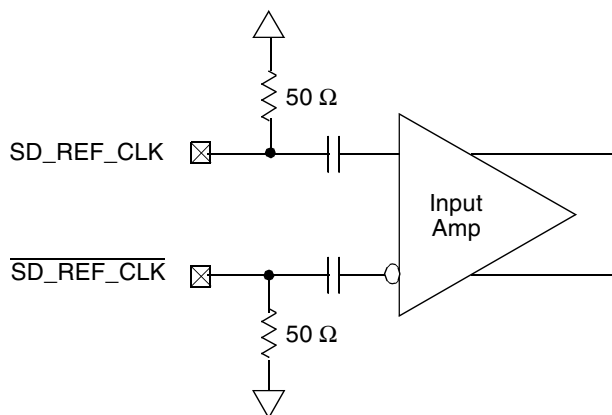

Figure 40. Receiver of SerDes Reference Clocks
Figure 40 shows a receiver reference diagram of the SerDes reference clocks.
- The SD\_REF\_CLK and  $\overline{SD\_REF\_CLK}$  are internally AC-coupled differential inputs as shown in Figure 40. Each differential clock input (SD\_REF\_CLK or  $\overline{SD\_REF\_CLK}$ ) has a 50- $\Omega$  termination to SCOREGND followed by on-chip AC-coupling.